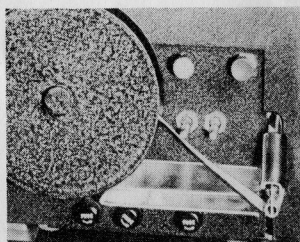

Fig. 1
2. Turn switch at left of keyboard to "on" position (illustrated at top of Page 14) and have all switches on front of Perforator in "down" position as in Fig. 1.